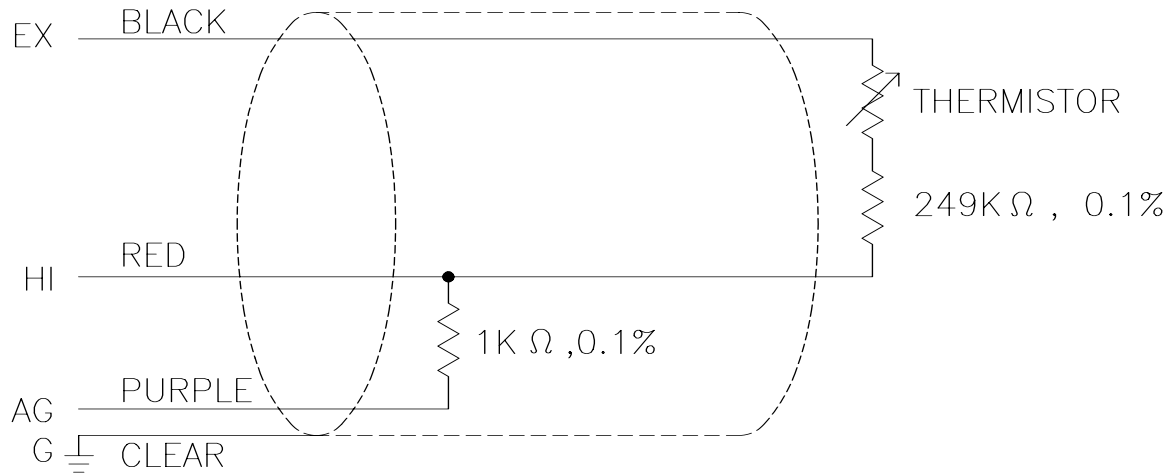

FIGURE 7-1. 107 Thermistor Probe Schematic
7.1 Temp(107) Instruction (P11)
The Temp(107) instruction (P11) applies a precise 2VAC (4VAC with the 21X and CR7) excitation voltage and measures the voltage drop across the 1K ohm resistor (Figure 7-1). The ratio of measured voltage (Vs) to the excitation voltage (Vx) is related to thermistor resistance (Rs), and the 1000 and 249K ohm fixed resistors as shown below:
Therm107 instruction applies a precise 2500 mV excitation voltage and measures the voltage drop across the 1K ohm resistor (Figure 7-1). The ratio of measured voltage (Vs) to the excitation voltage (Vx) is related to thermistor resistance (Rs), and the 1000 and 249K ohm fixed resistors as shown below: